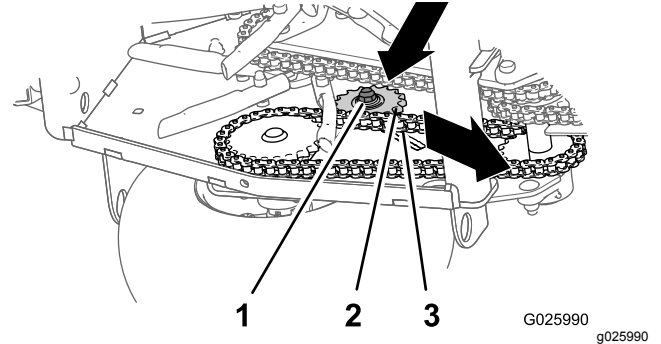

Figure 46
3. Check the tension of the drive-wheel chains (Figure 46).
4. Loosen the locknut and carriage bolt that secure the idler sprocket (Figure 46).
- Push down and forward on the sprocket to increase the chain tension as shown in Figure 46.